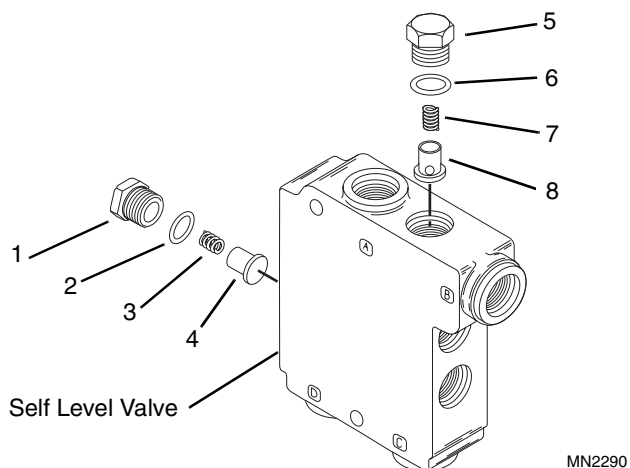

Figure 4-30 Self Level Valve
1. Replace either plunger (Fig. 4-30, 4 or 8) if nicked, scored or scratched.
2. Replace either spring (Fig. 4-30, 3 or 7) if cracked, broken, or suspected to be weak.
3. Replace o-ring (Fig. 4-30, 2 or 6) with a new o-ring.
1. Center the plungers (Fig. 4-30, 4 or 8) in the valve body cavity.
2. Insert the springs (Fig. 4-30, 3 or 7) into the holes in the plunger (4 or 8).
3. Lubricate the new o-ring's (Fig. 4-30, 2 or 6) with clean oil and install on the plugs (1 or 5). Do not cut or over stretch o-ring.
5. Torque plug assembly (Fig. 4-30, 1) to 27-30 lb/ft (37-41 Nm) and plug assembly (5) to 21-24 lb/ft (28-32 Nm).